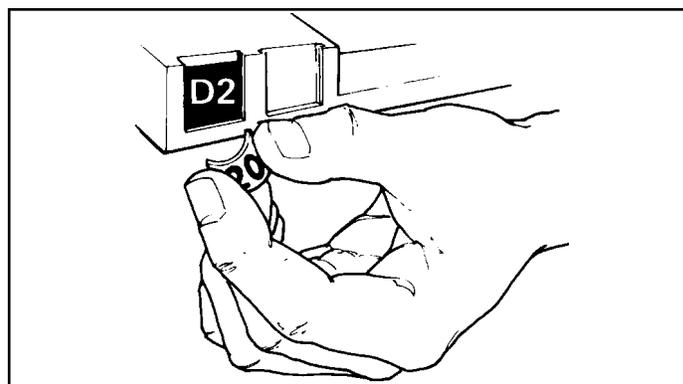

Figure 9. INSTALLING PRICE TABS
12. INSTALL PROPER PRICE TABS into price tab holder for each selection in the main product area. (See Figure 9.)